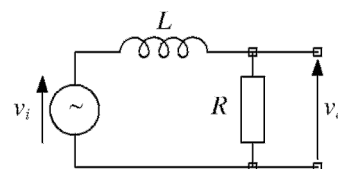

Figure 3c
- c. Show that the circuit of figure 3c has a transfer function given by